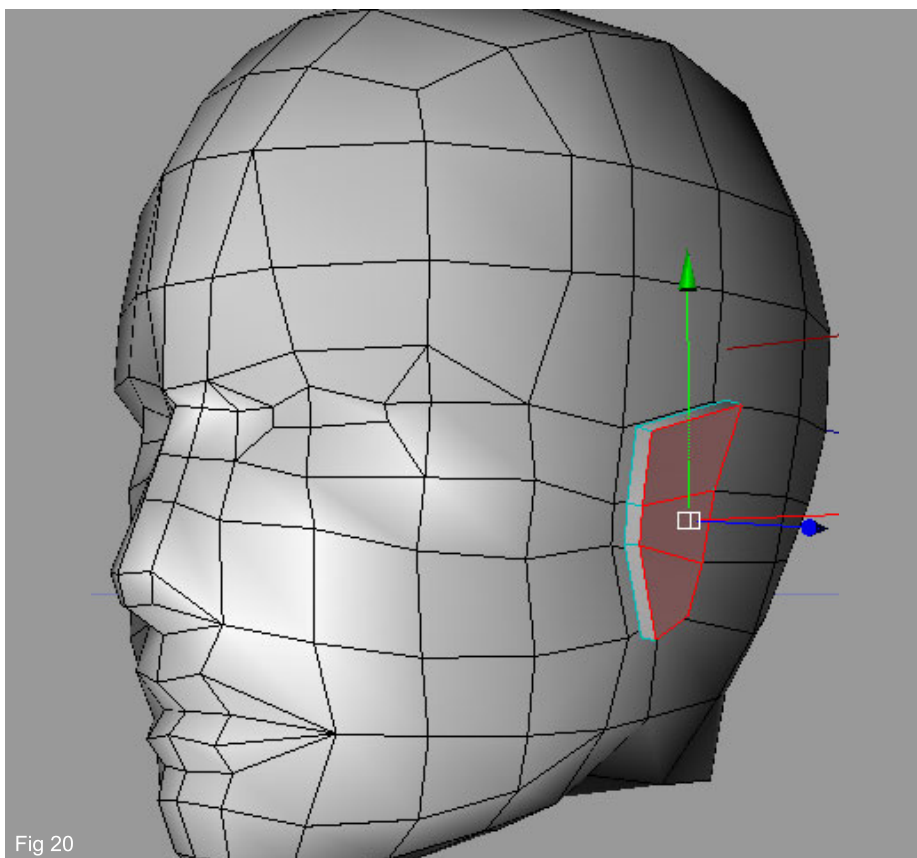

Fig 20
20. Extrude the face of the new object as shown in (Fig 20).